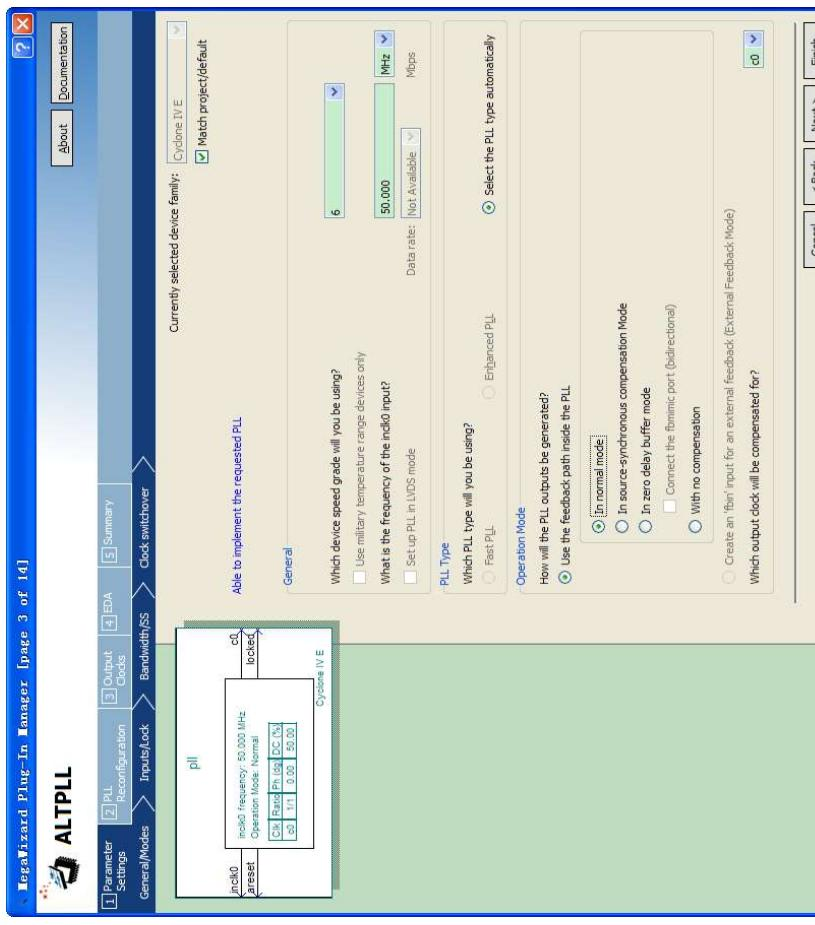

Figure 6-21 MegaWizard Plug-in Manager [page 3 of 14] Selections
5. In the MegaWizard Plug-In Manager [page 3 of 14] window, make the following selections (see Figure 6-21).